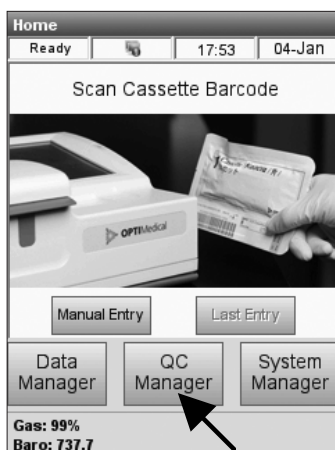

Fig. 4-12 Select QC-Manager
1. To run controls, press **<QC Manager>** in the main menu (Fig. 4-12), and select **<Control>** in the **<QC>** menu.